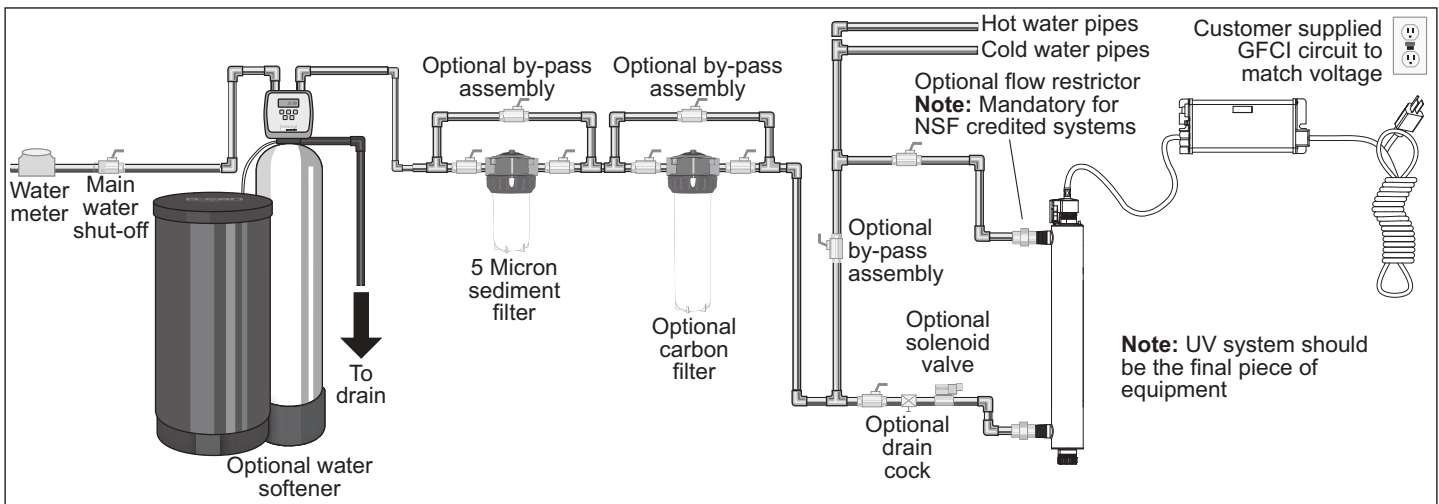

Figure 3 UV System
1. **Figure 3** shows the installation of a typical UV system and the related components that may be used for the installation. The use of a by-pass assembly is recommended in case the system requires “off-line” maintenance. In this case, note the system requires supplementary disinfectant for the distribution system if any water is used during by-pass condition. In addition, during by-pass, the water will NOT be treated and a “DO NOT CONSUME THE WATER” tag should be physically installed on the by-pass assembly until such time as the system is sanitized and returned to service. For more information, refer to **Section 3.2**. If the water is to be consumed while the system is off-line, the water must be boiled for two minutes prior to consumption.